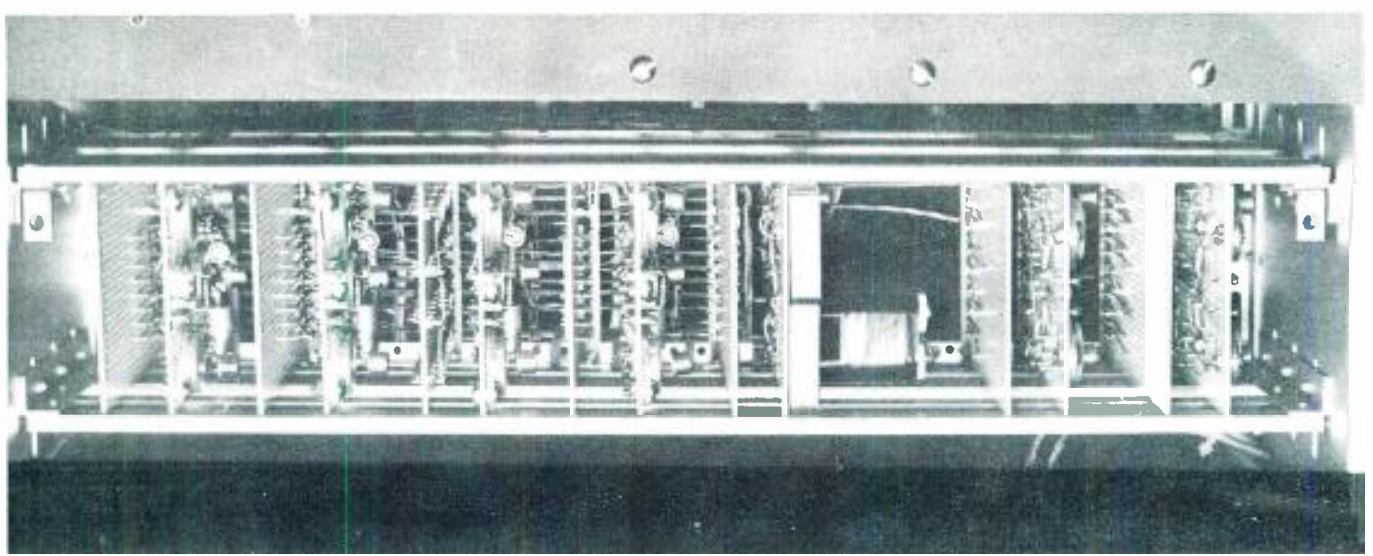

Fig. 1 Plug-in cards contain all control circuitry.
5. Since the system is in use 24-hours a day it had to be highly reliable with easy access for maintenance. Toward this end we have dual power supplies, and we used transistor drivers for all relays to keep switching currents at an absolute minimum. Each line has its switching circuitry on a separate plug-in card (Figure 1) so a line-check or maintenance is as easy as